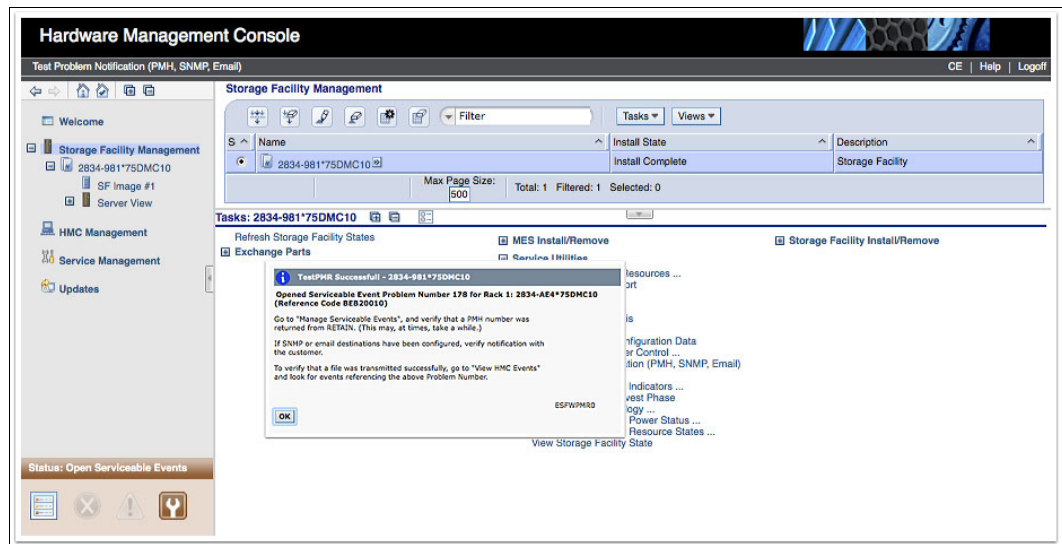

Figure 14-4 HMC SNMP trap test
- The test generates the Service Reference Code BEB20010 and the SNMP server receives the SNMP trap notification, as shown in Figure 14-4.